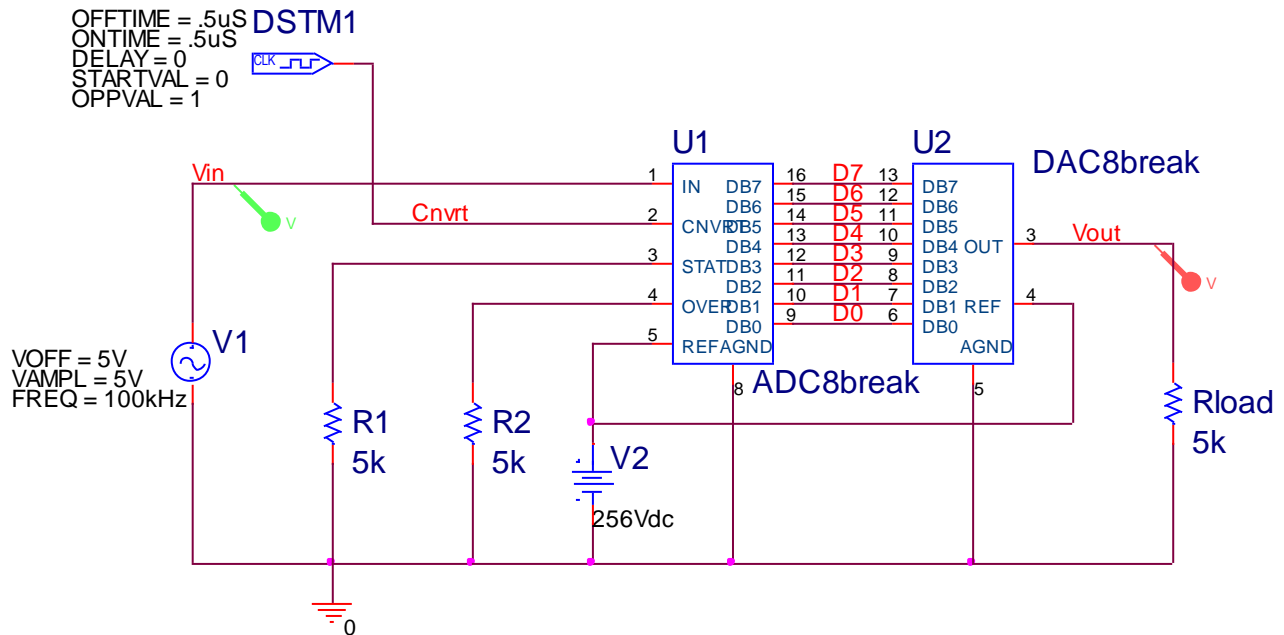

Figure 3. Integrated ADC/DAC
8. Add a new schematic to your project and capture the Integrated Circuit ADC circuit of Figure 3. Follow the same instructions above to create the new schematic.